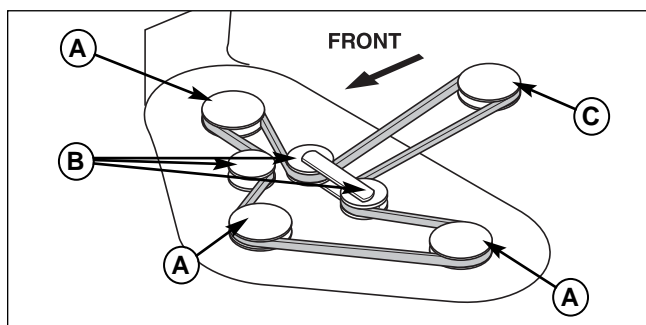

Figure 45. Mower Belt Routing
6. Remove the old drive belt and install the new one as shown in Figure 45. Make sure that the V-side of the belt runs in the pulley grooves of the spindle pulleys, and that the back of the drive belt must ride against the back-side idler pulleys (B).